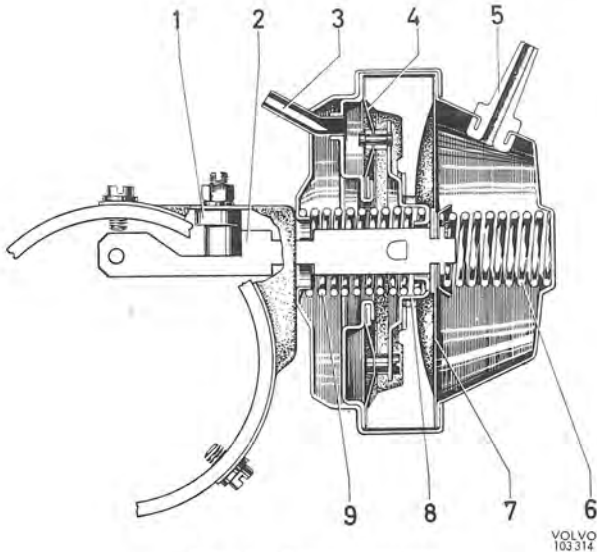

Fig. 3-51. Vacuum regulator
constructed so that during engine braking or idling it lowers the firing during the basic adjustment. When engine braking or idling takes place, the throttles in the carburetors are closed so that there is no vacuum in the connection from the carburetors (5, Fig. 3-51) so that the return spring (6) presses back the primary diaphragm (7) against the stop (8). The pull rod (2) which is secured to the primary diaphragm (7) transmits the movements in the diaphragm to the breaker plate. If the vacuum in the connection from the intake manifold (3) is sufficiently large, pull the secondary